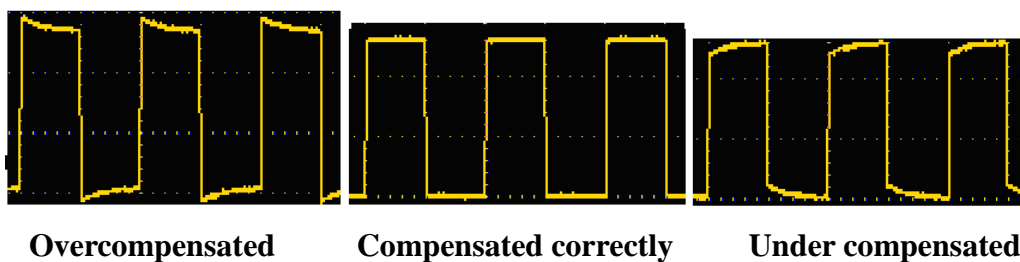
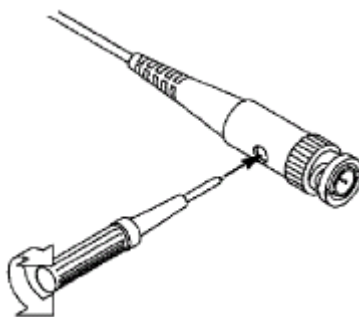

Figure 3-7 Displayed Waveforms of the Probe Compensation
Figure 3-8 Adjust Probe
2. Check the displayed waveforms and regulate the probe till a correct compensation is achieved (see *Figure 3-7* and *Figure 3-8*).